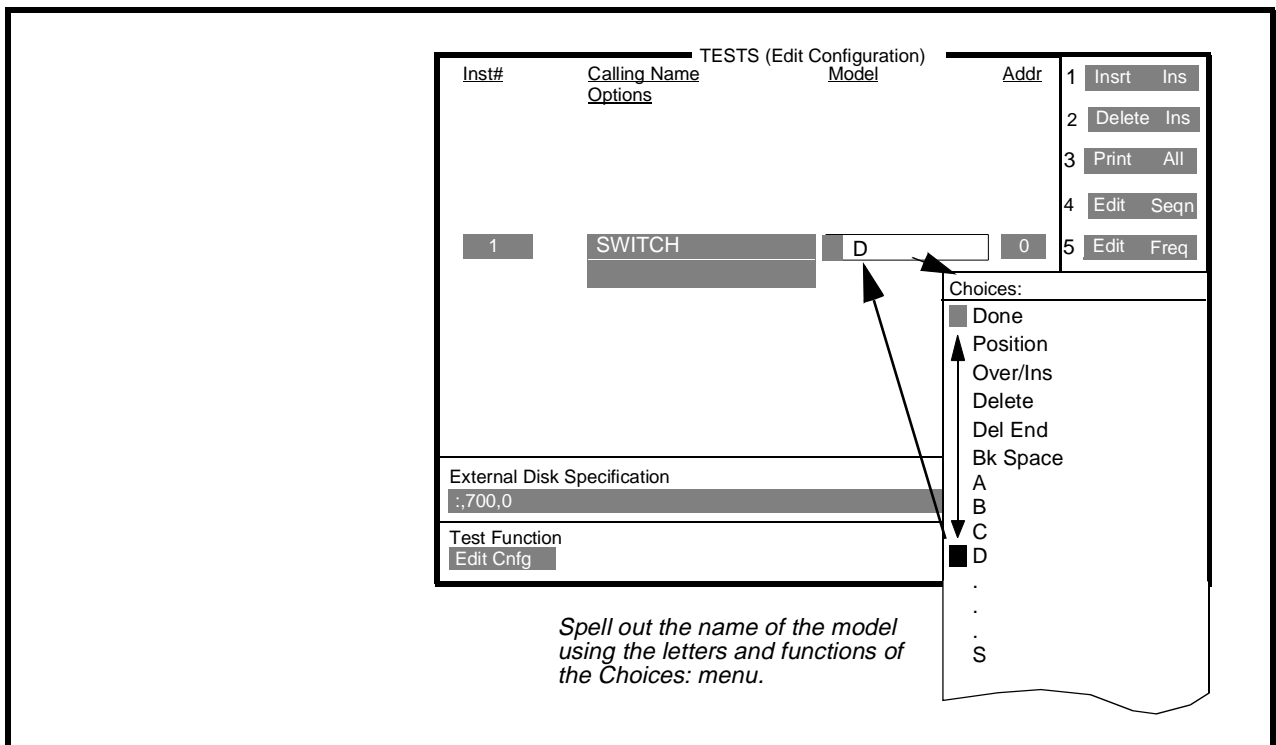

Figure 33
- 10 Spell out the word DUPLEXER in the **Model** field by positioning the cursor and selecting each letter of the word from the **Choices:** menu (see figure 33).